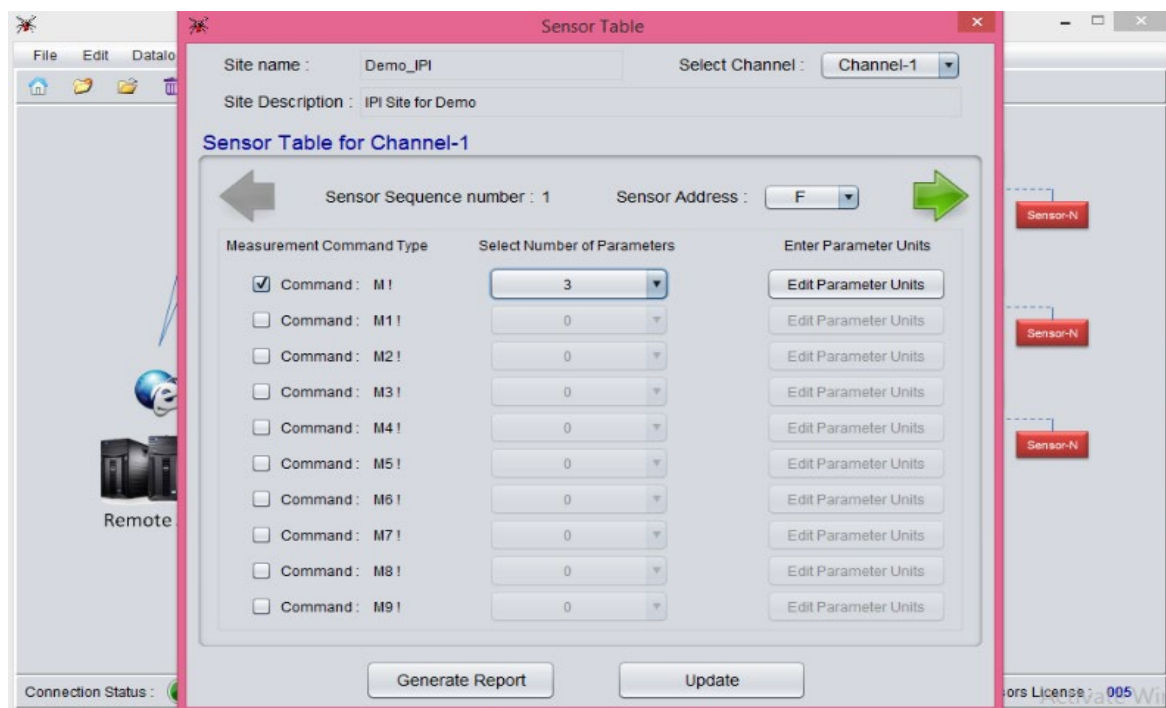

Figure 7-17 Sensor table window of EDSL-30UNI Configuration Manager Software
- 16 In the “Sensor Table” window shown in figure 7-17 below, select appropriate channel from “Select Channel” & address from “Sensor Address” to which the sensor is connected. Then select the “Measurement Command Type” which is “M!” by default and “Select Number of Parameters” to be measured. Then click on “Edit Parameter Units”